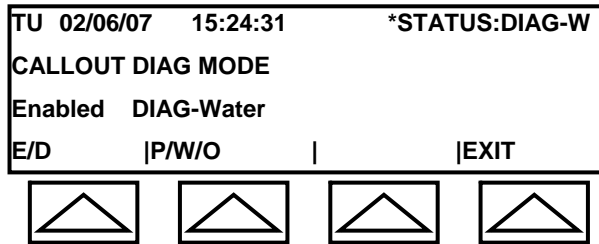
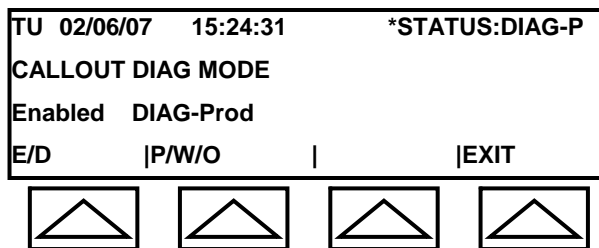

Fig. 6-25b: DIAG Submenu (Water)
Fig. 6-25c: DIAG Submenu (Product)
ure 6-25a. When you select water, it will display Figure 6-25b, and when you select product, it will display Figure 6-25c.
1. Select water or product. LCD will display selected test (see Figures 6-25b and 6-25c).